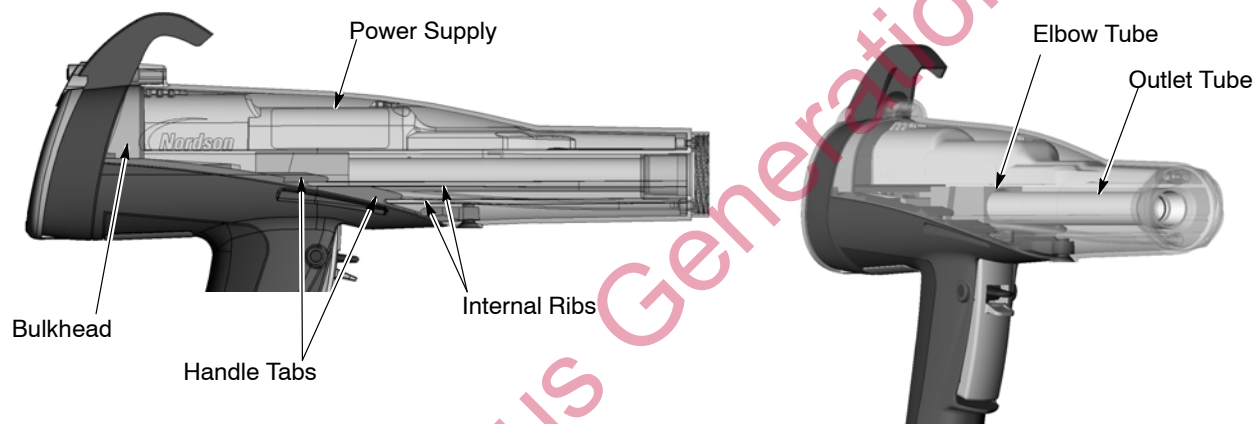

Figure 6-6 Gun Re-assembly
1. See Figure 6-6. Align the gun body with the handle and slide them together, engaging the internal ribs of the gun body with the handle tabs.